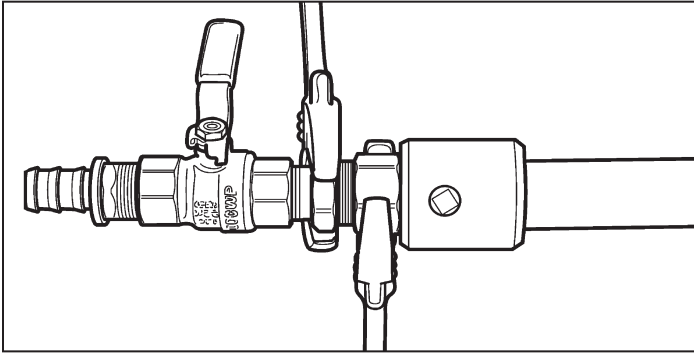

Figure: 4-60
9. Thread the nut onto the adapter. Use the appropriate wrenches to hold the adapter and tighten the nut to the proper torque specified. It's important not to overtighten or use any pipe dope or thread sealants on this connection. The connection is a metal-to-metal seat and will not seal if pipe dope or thread sealants are used. Remember, sealants are only meant to be used on the NPT connection to the equipment (**Figure 4-60**).